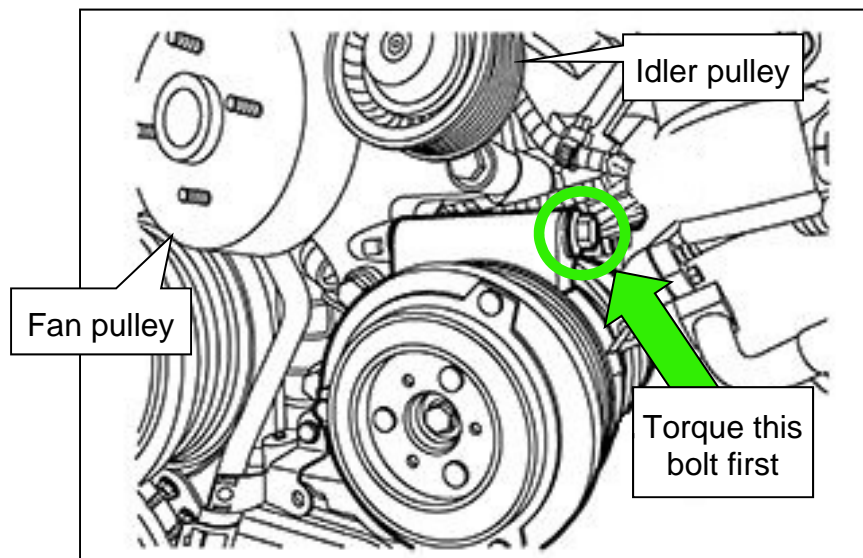

Figure 4
- Torque the shared A/C compressor/fan bracket bolt first (Figure 4), then torque the remaining fan bracket bolts.
HINT: Figure 4 is shown with the idler pulley and the fan pulley installed, but these pulleys will remain removed during fan bracket installation.